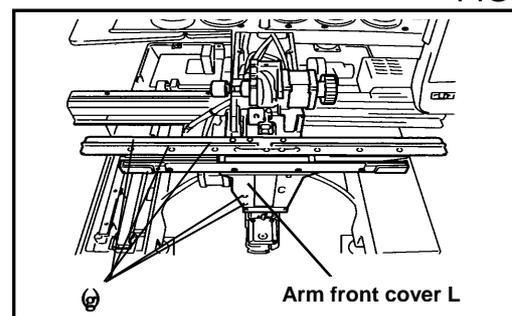

FIG.4
- (13) Remove five set screws (g) and the arm front cover L. (Fig.4)
under cover. (Fig.4)